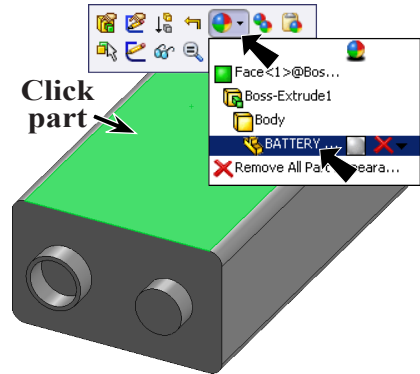

Fig. 15
Step 1. Click the **top face** of the battery to select the part, click **Appearance Callout**  on the Content toolbar and click **BATTERY...** , Fig. 15.